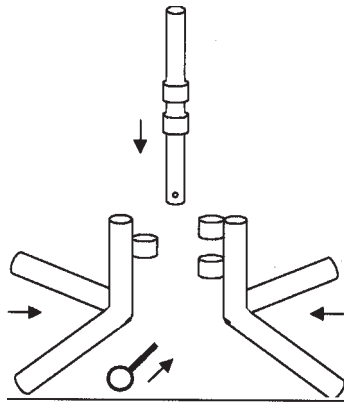

Figure 1 - Stand Assembly
1. Place two halves of the support legs together and insert pivot tube through the center of the legs to join together. (Figure 1)